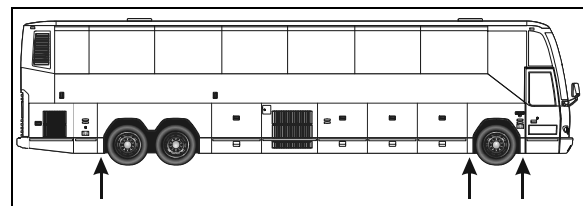

FIGURE 79: JACKING POINTS ON STRUCTURE 18480
The vehicle can be lifted by applying pressure under body jacking points or front and drive axle jacking points (from fig. 79 up to 86). When it is necessary to lift the vehicle, care should be taken to ensure that the pressure is applied only on the specified areas. Equipment for lifting the front of the vehicle must have a combined lifting capacity of at least 20,000 lb. (9 100 kg).
**Warning:** When it is necessary to raise the vehicle, care should be taken to ensure that pressure is applied only at the points indicated in figures 79 up to 86.